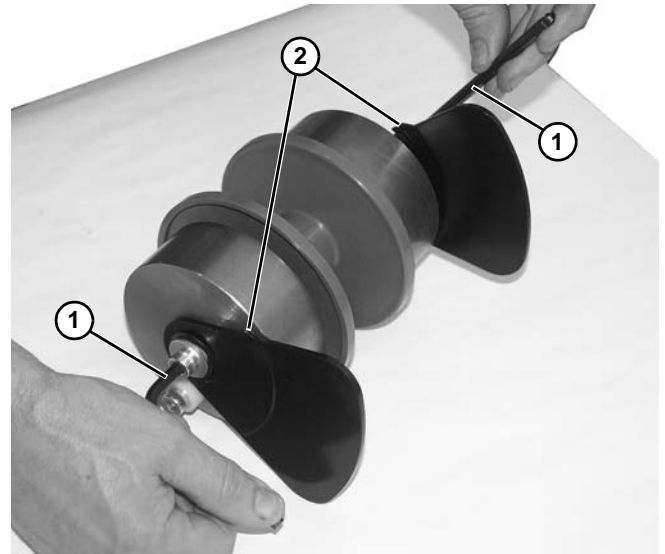

Figure 155
10. Install components reverse of removal, using two hex wrenches (Figure 155, item 1) on each side of idler assembly to tighten components.
Be certain that notches (Figure 155, item 2) on both plates are on top side, and spacers are in same orientation, as shown, before tightening components.